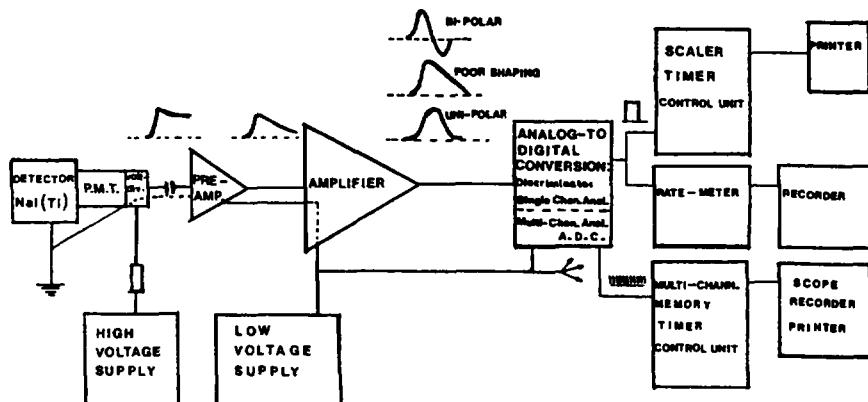

Fig. 4.1: A typical NaI system
A NaI detector is used in many fields of application of nuclear techniques, e.g. in nuclear medicine, radioimmunoassay, agronomy, radiation protection and uranium prospection. Therefore, a NaI detector system was chosen as an example of troubleshooting in a detection system. Such a system consists of a detector, usually surrounded by a radiation absorbing shield and a collimator, a preamplifier, an amplifier, a single channel analyzer (SCA) and a scaler-timer or a ratemeter, or, instead of the last three, a multichannel analyzer (MCA). Furthermore, the system contains a high voltage supply (HV) and several low voltage DC supplies (LV). The units composing the system and their functions are given in Fig. 4.1. For other detectors, a similar set of electronic units is used with characteristics adapted to the particular detector. In the following text, examples are taken from medical applications. The reader should be able to find equivalent ones in his own field of application.
- a multimeter (MM);
- an oscilloscope (0) 0-15/20 MHz, with dual beam or dual trace, sensitive trigger properties (it must be possible to trigger both channels at the same time or alternatively with the signal on one channel) and with signal delay lines to enable visualization of the front edge of pulses;
- (a) pulse generator(s) (PG) with which nuclear pulses can be simulated, both for analog pulses and for digital pulses; and
In order to do troubleshooting one should know: (1) the usual composition of a NaI detection system and the functions as given in Fig. 4.1; (2) the forms of the signals at the output of the PMT, the preamplifier, amplifier and single channel analyzer; (3) why one does not observe a signal at the input of a charge sensitive amplifier; (4) that the rise time of the pulse at the output of the PMT depends on the half life of the scintillation process in the detector; and (5) that the pulse heights and shapes at the output of the pulse amplifier are so chosen as to fit best to the SCA (or MCA) and to guarantee optimum spectrum resolution.